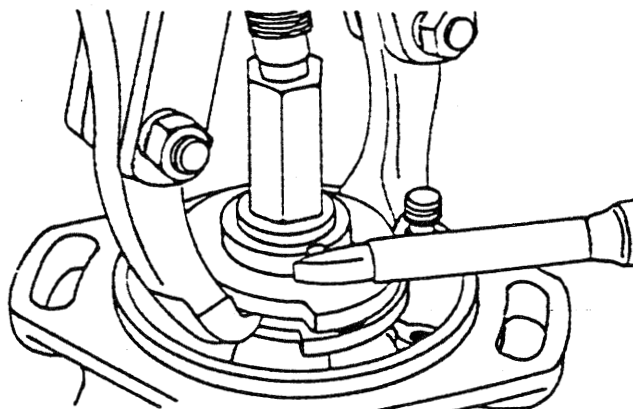

Figure 403. Applying Heat to Release Coupling From Shaft
- D. Tighten puller handle to remove coupling from shaft. If cam assembly (11) does not release with maximum hand torque at puller handle, apply penetrating thread release compound between cam assembly (11) and shaft. Then while puller is still fully tightened, hold tip of hot heavy-duty soldering iron in contact with hub of cam assembly (11). See Figure 403. Solder wetting of the tip at point of contact with cam hub will assist in heat transfer to the parts. Retighten puller after about a minute of heat application.